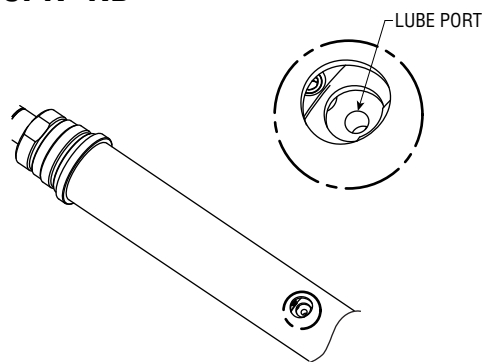

Figure A4
2. For ECPR (Rotating Rod) series cylinders: Fully retract the rod and rotate the rod clockwise until the lube port is accessible (see Figure A4). This step may require disengagement of motor brake or attached load.